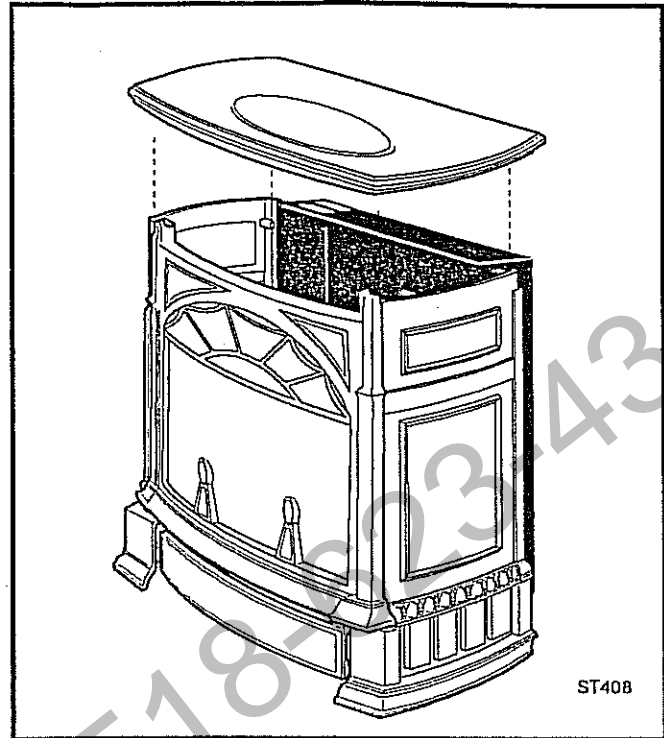

Fig. 61 Install the top plate.
3. Install the Top Plate. The upper edges of the side plates should seat into the channel on the underside of the Top. (Fig. 61)